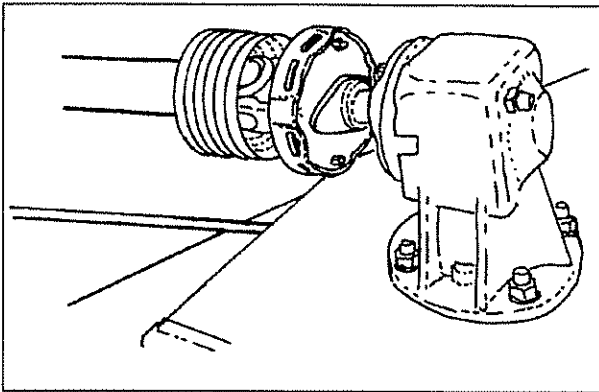

FIGURE 6
1. Attach the slip clutch end of the jackshaft driveline to the gearbox input shaft (IIC) securely. Make certain that the slip clutch is fully onto the input shaft splines and that the spring-loaded locking collar is completely seated. See **Figure 6**.